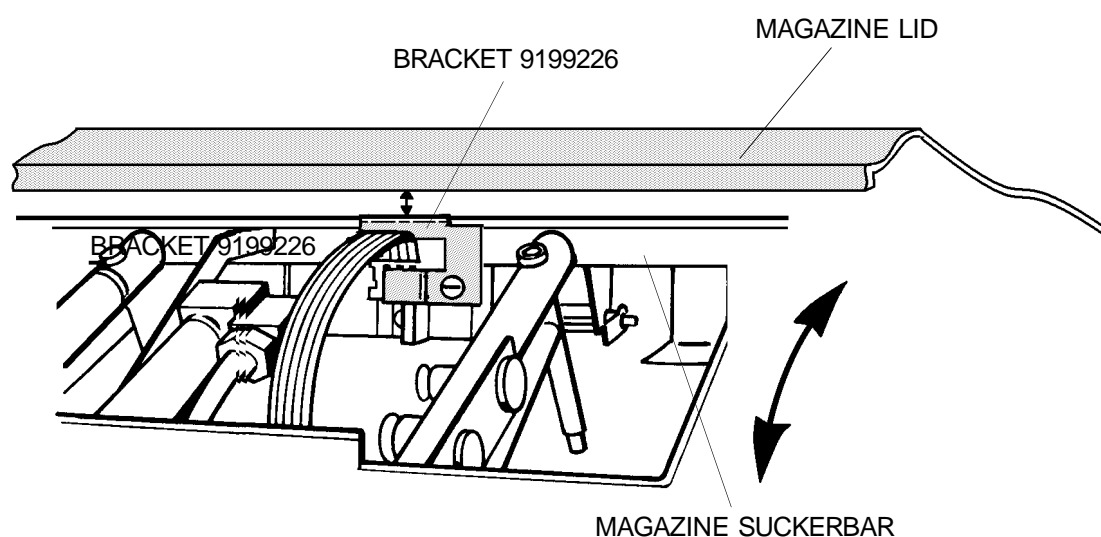

figure 13
- 21.** Move the MAGZINE SUCKERBAR in and out. Check that the BRACKET 9199226 does not touch the MAGAZINE LID. See figure 13..